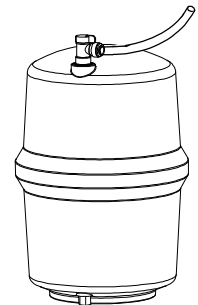

Fig 9
3. Take out the 3/8" tubing from the accessory bag, cut it to proper length, attach one end to the storage tank port on RO module assembly and attach another end to the ball valve. Make sure the tubings are fully seated(Fig 9).